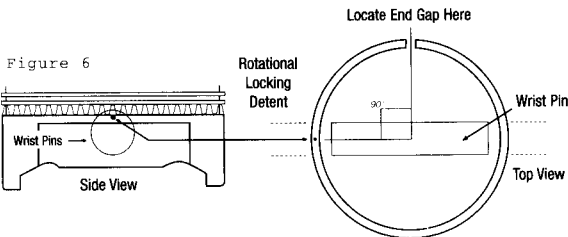

Figure 6
2. Rotate the oil ring support rail until antirotational locking detent falls between opening at intersection of ring groove and wrist pin hole. (fig. 6)